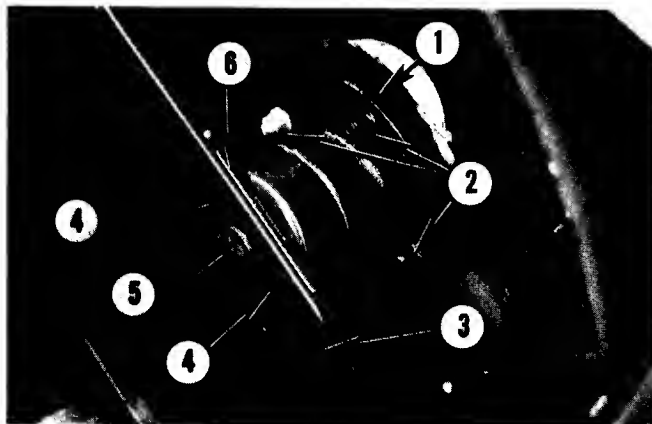

FIG. 10.3--BLADE SPINDLE DETAIL
3. Loosen outboard spindle housing nuts, No. 2, Fig. 10.3, one turn only.
8. Tighten spindle housing bolts, Fig. 10.3 to 30-35 ft.-lbs. torque. Reinstall belt covers.